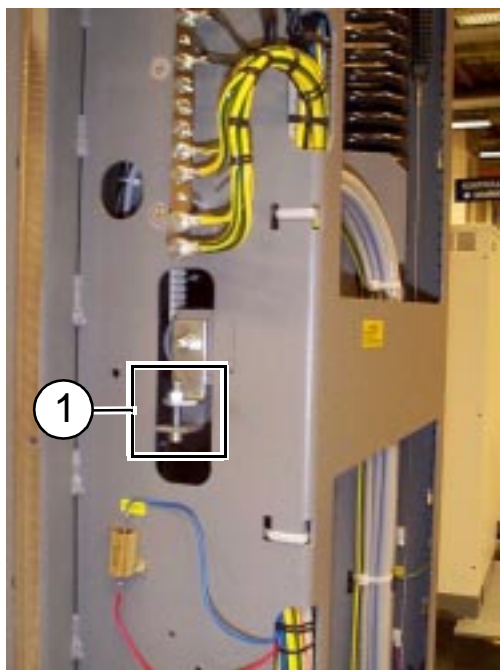

Fig. 4
4. Undo the screws on both sides of the gear. This releases the tension of the drive belt (see Fig. 4, pos.1).
8. Tension the drive belt (see Fig. 4, pos.1).
11. If necessary, fine adjust the tension of the drive belt (see Fig. 4, pos.1).